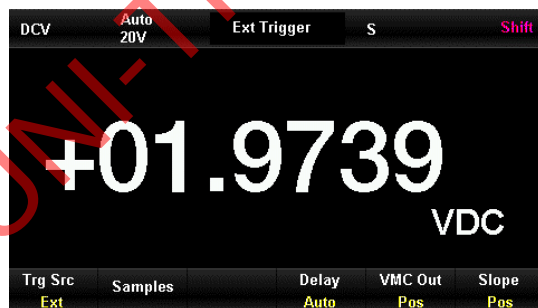

Figure 2-39 Setting interface of external trigger
- 1) Press  button and then select [Trg Src] → [Ext] to turn external trigger function on as Figure 2-39.